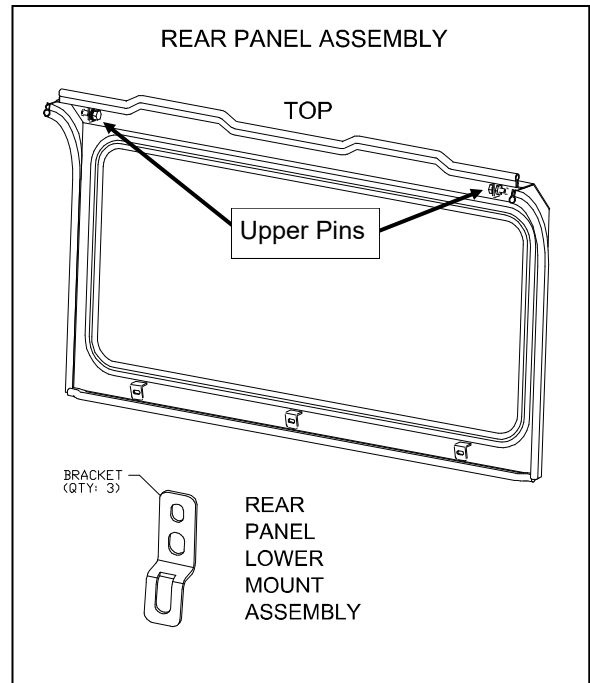

Fig. 4.1 (contents of rear panel kit)
4.1 Fig. 4.1 shows the contents of the rear panel kit.